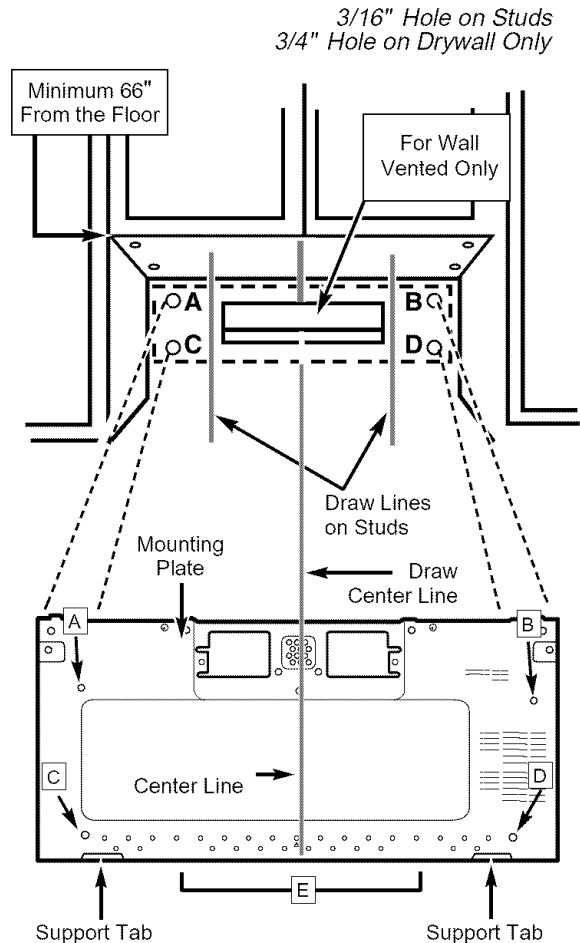
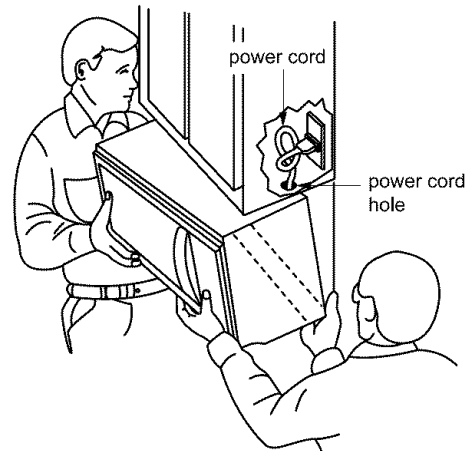

Figure 26
Figure 30
2. While holding the mounting plate with one hand, draw circles on the wall at holes "A", "B", "C" and "D". Four holes must be used for mounting. If the holes are not used, the installation will not be secure. Installer must use these holes for proper installation. Use toggle bolts through these holes unless one of them lines up with a stud. Use a lag screw for studs. See **Figure 26**.
1. Carefully lift microwave oven and hang it on support tabs (See **Figure 26**) at the bottom of the mounting plate. Reaching through upper cabinet, thread power supply cord through the power supply cord hole in the bottom of the upper cabinet. See **Figure 30**.